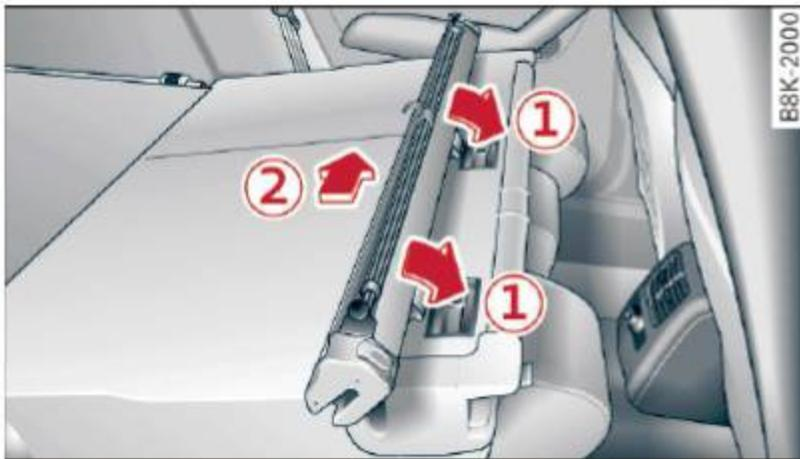

Fig. 79 Folded backrest: installing the partition net
- ▶ Affix the partition net to the recesses on the retaining rails ① ⇒ *fig. 79* and slide it towards the left side of the vehicle until it latches ②.
- ▶ Slide the partition net to the right and lift it out of the retaining rails ⇒ *fig. 79*.